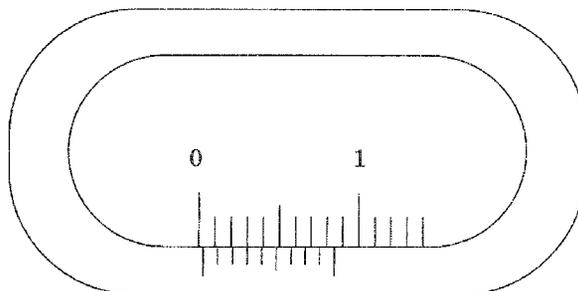

Figure 2.2 Vernier caliper with its jaws closed. Does it have a zero error?
3. The caliper in Figure 2.2 has its jaws closed. If the caliper has a zero error, what is its value, and is it positive or negative? Error = _____ cm